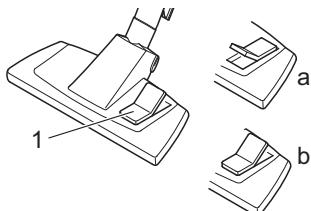

Fig. 13
5. Adjust the carpet/hard floor switch (Fig. 13/1) depending on the type of flooring:
- **Hard floor (Fig. 13/a)**
- **Carpet (Fig. 13/b)**